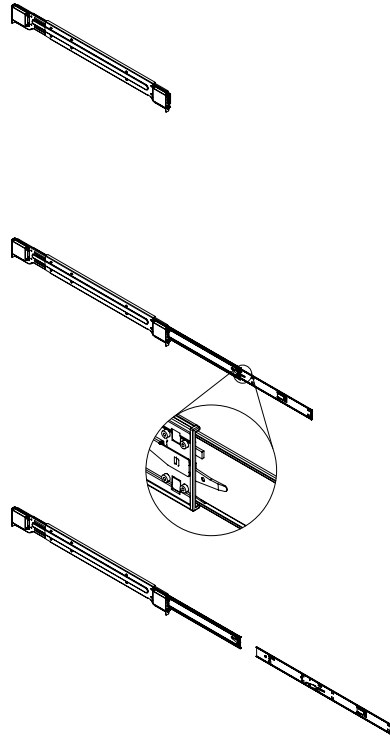

Figure 2-2 Separating the Rack Rails
1. Locate the rail assembly in the chassis packaging as shown in Figure 2-2.